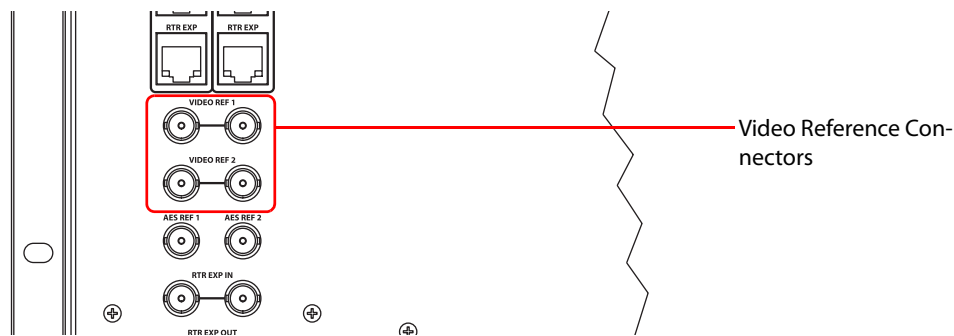

Fig. 2-21: Video Reference Connections (Rear View)
- 1 Locate the video reference connections on the rear of the router, as shown in Figure 2-21. Video reference connections are labeled **VIDEO REF 1** and **VIDEO REF 2**.